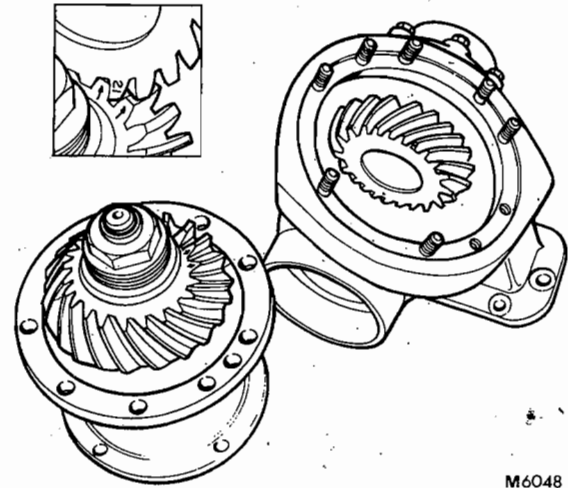

FIG. 2 TOOTH CONTACT MARKINGS
10. Examine the faces of driver and driven gears to identify tooth contact markings and backlash figure, see Fig. 2.